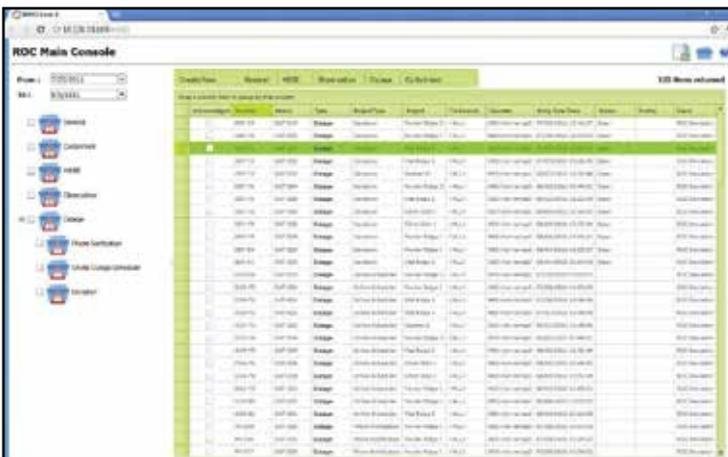

Figure 3: Screenshot—Electronic Logs.
- **Electronic Logs**—This module provides an electronic log framework (Figure 3) to allow users to make log entries under predefined categories such as safety, environment, and operating procedures, among others. The log entries should be supportable with any digital media (voice, pictures, videos).